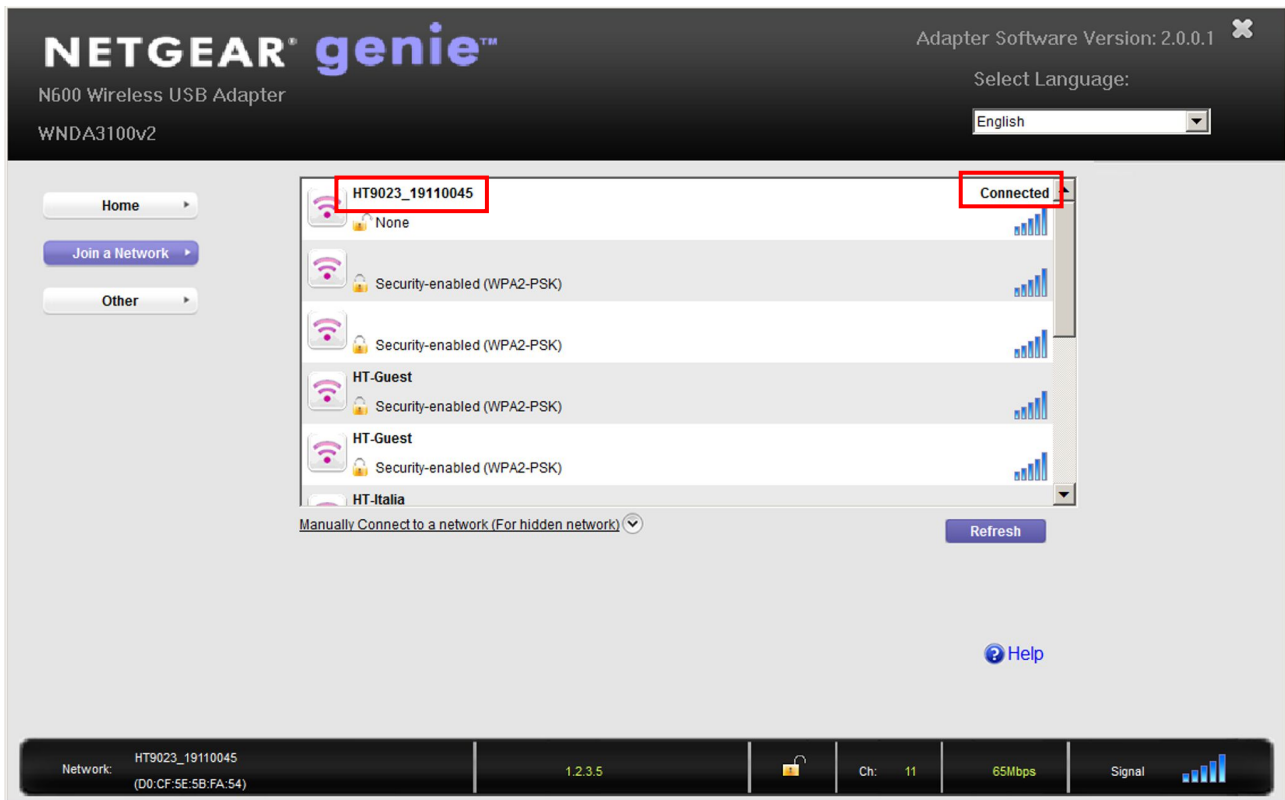

Fig. 15: WiFi connection of instrument to PC (example)
5. Search for the “HT9023_19110045” instrument in the WiFi device included on the PC and connect it as shown as an example in the following Fig. 15